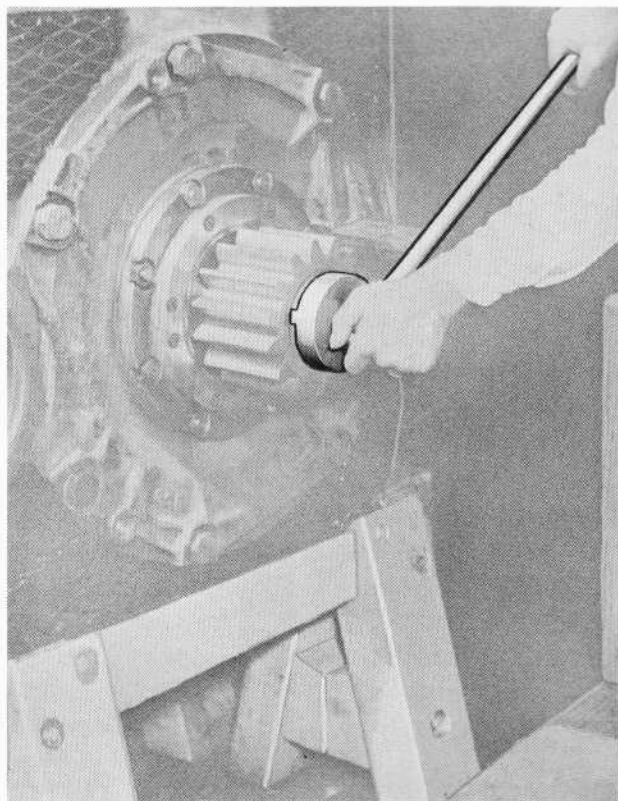

Fig. 18 - Removing Nut
1. Remove the nut from the end of the shaft using wrench 8127529 and handle 8127528 as shown in Fig. 18.